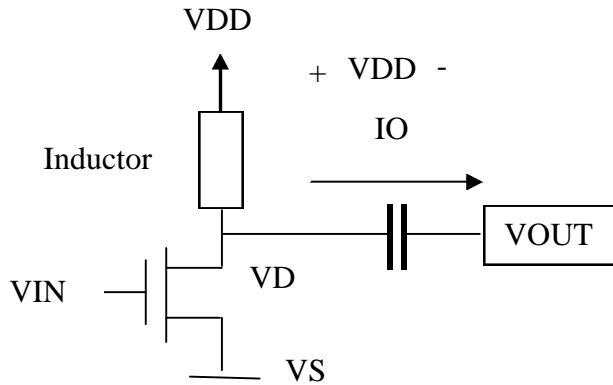

Figure 2.0
**II.0 The load line:** A useful and important tool in RF PA design is the load line. This is explained below. Consider Figure 2.0
$I_Q$  is the quiescent current. The other quantities are indicated Figure 2.0.